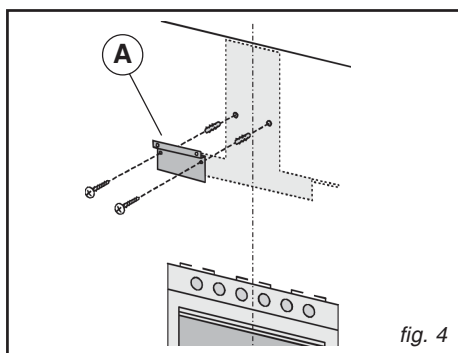

fig. 4
- Fix the metal bracket (A) to the wall using the 2 holes just drilled (Fig. 4); the screws for fixing the bracket are provided. Use the 2 cut-out triangles on the bracket to position it exactly along the vertical axis of the hood.